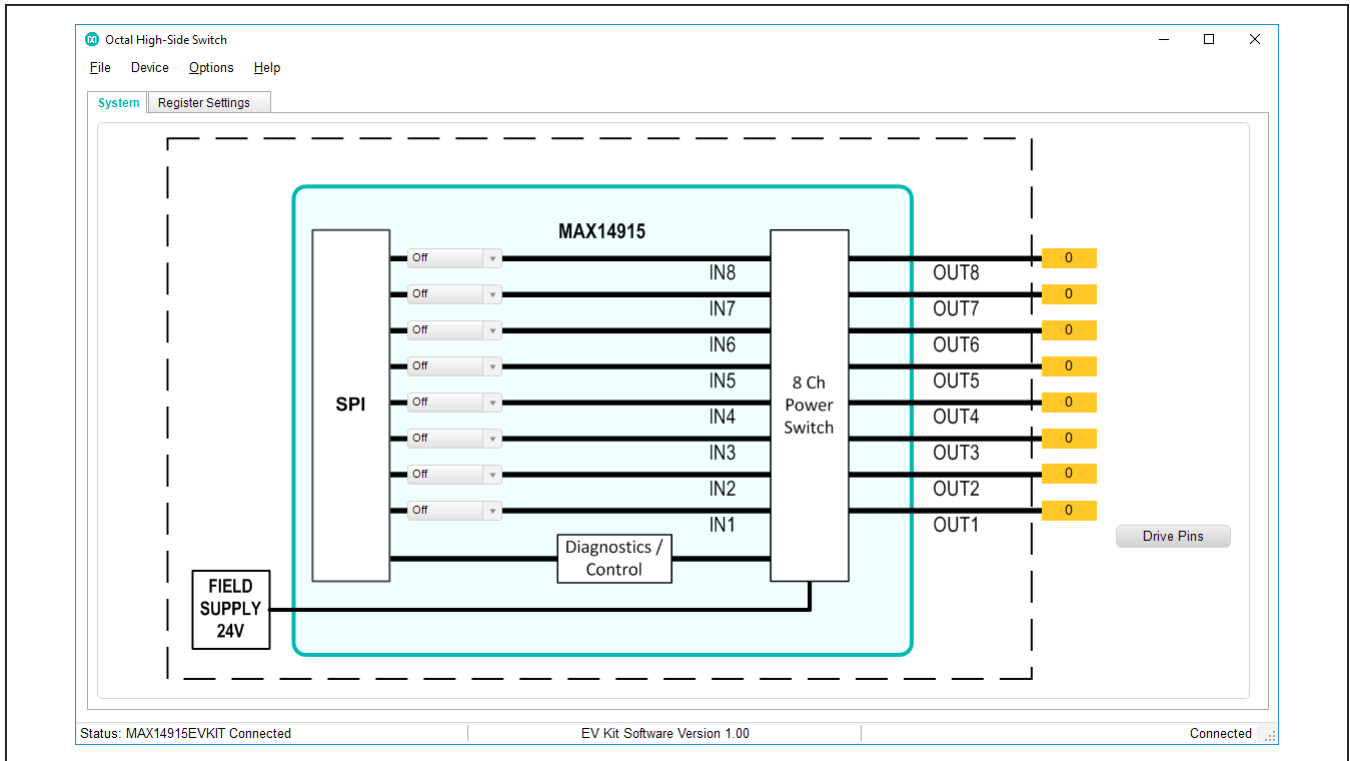

Figure 1. MAX14915 EV Kit GUI System Tab
- 6) Start the EV kit software by opening its icon in the **Start | Programs** menu. The EV kit software appears as shown in Figure 1. Verify that the lower-right status bar indicates the EV kit hardware is **Connected**. The GUI automatically detects EV kit is connected to the PC and enables serial communication. Any configuration change can be made on Register Settings tab. (The following steps are used to verify functionality of the MAX14915)